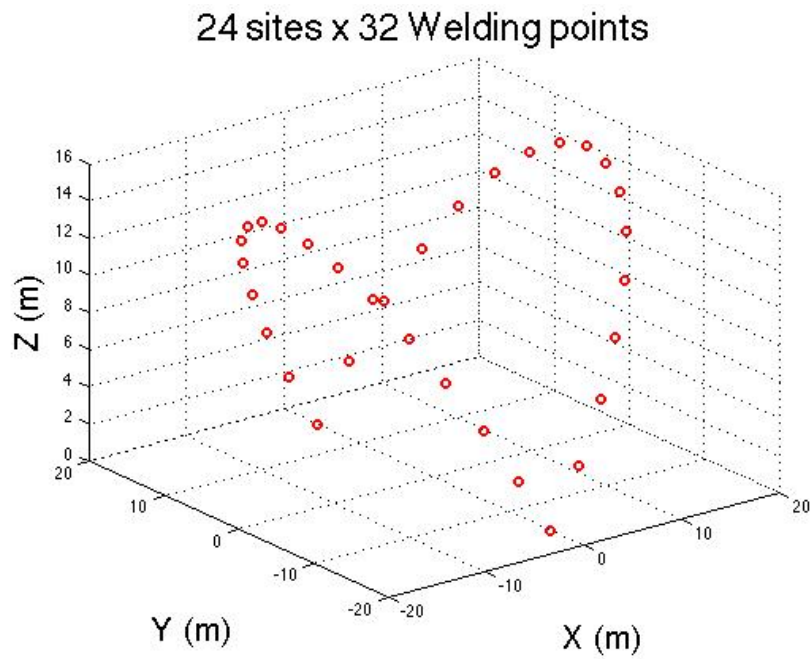

Ilustración 1 Points at reference frame
1. Write the code¹ to obtain 32 welding points of two intersecting tubes. See Ilustración 1 Points at reference frame.